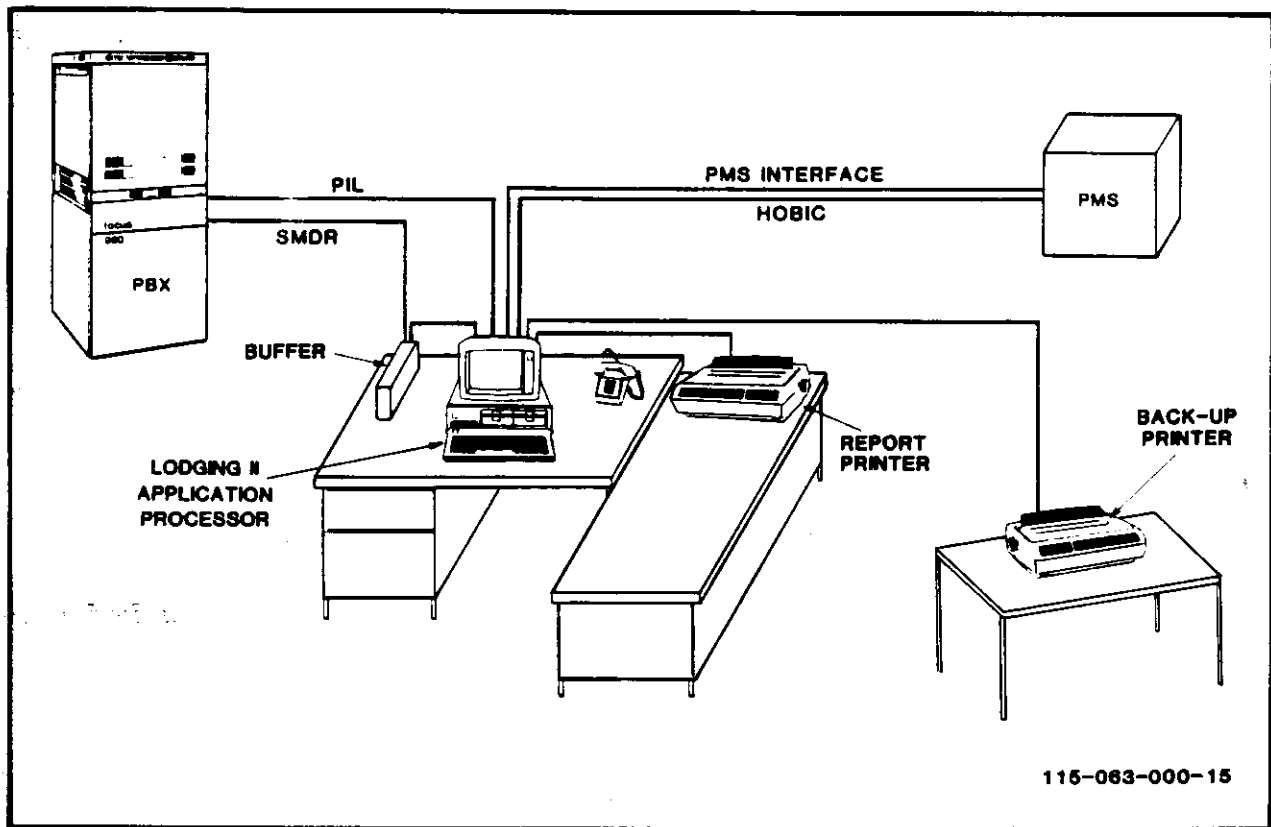

Figure 1-1. Lodging II System Overview
2.03 Figure 1-1 shows a simplified diagram of a Lodging II installation with its connections to the focus 960 PBX, PMS, and the various AP peripheral devices. The major system components are: